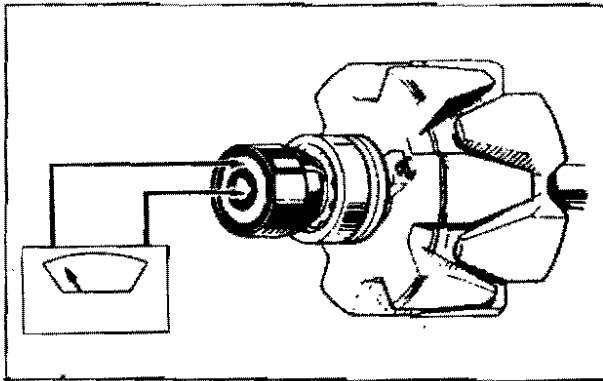
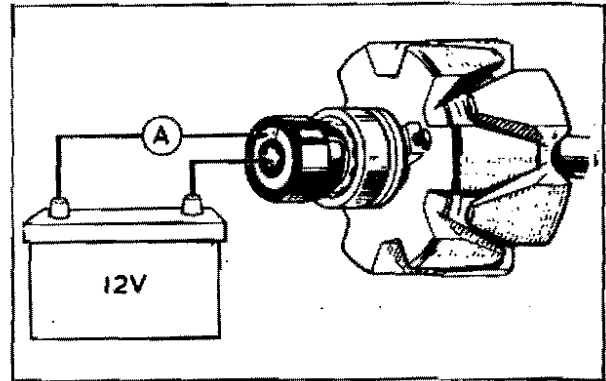

Fig. 38 – Measuring rotor winding resistance with ohmmeter
Fig. 39—Measuring rotor winding resistance with battery and ammeter
Check field winding continuity and resistance simultaneously, by connecting either a battery-operated ohmmeter (see Fig. 38) or a 12V battery and moving-coil ammeter (see Fig. 39) between the slip-rings. The ohmmeter should indicate the appropriate resistance given in TECHNICAL DATA, or the ammeter should indicate a current approximate to the figure obtained by dividing the appropriate resistance of the rotor into the battery voltage (12).